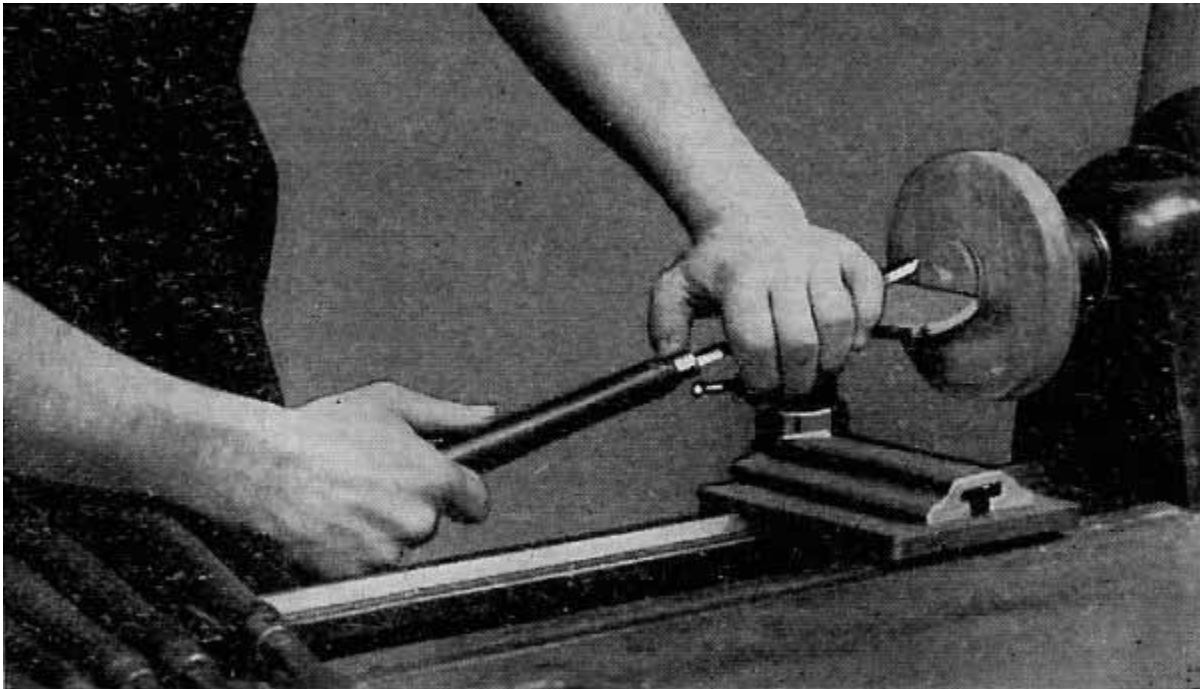

Fig. 18.
1. EXTERNAL SHOULDERS. FIG. 18. The surplus stock at each successive shoulder is roughed out with a $\frac{3}{4}$ " gouge, keeping well outside the finished measurements. The gouge for this work is held in the same position as described in B-I--1-a, Step 1, for Roughing Off Corners.